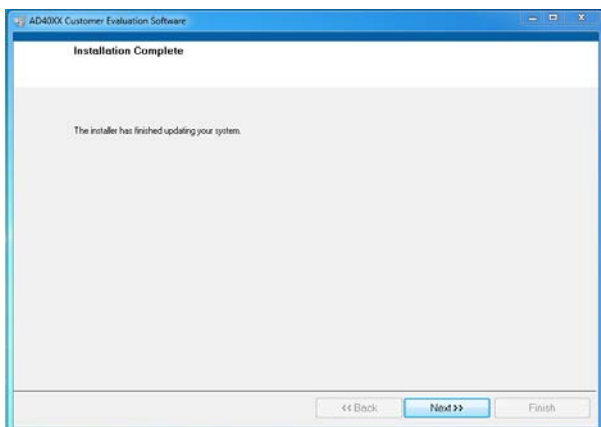

Figure 9. Installation Complete Window
- Click **Next** to complete the installation and launch the **SDP-H1** driver installation, as shown in Figure 9.